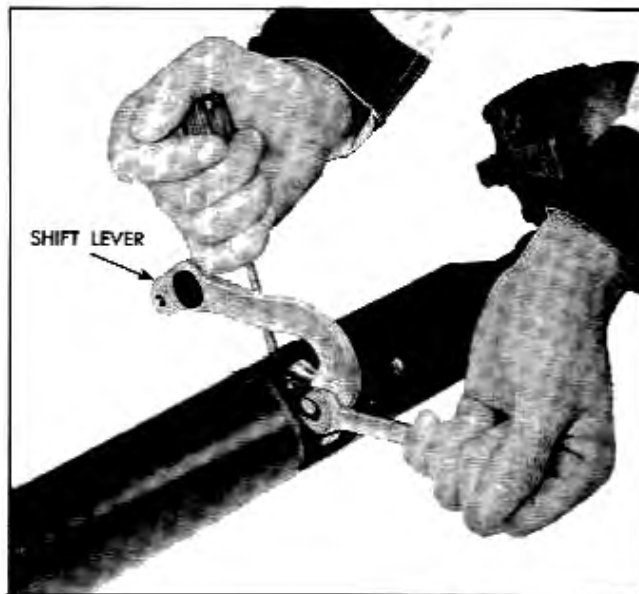

Fig. 7-8 Removing Lower Shift Lever
12. Remove shift lever from tube yoke by loosening screw about $\frac{1}{8}$ " with an open end wrench and moving lever down and out. Gearshift tube can be held downward by means of screwdriver inserted through selector lever opening (Fig. 7-8). Attaching screw need not be completely removed from bracket since re-installation is greatly simplified if screw is left in.
3. With screw started in gearshift lower lever, position lever against bottom of lower lever drive plate engaging driving lugs and extrusion at screw boss and tighten cap screw securely. Shift tube can be held down by means of screwdriver inserted through selector lever opening (Fig. 7-8).